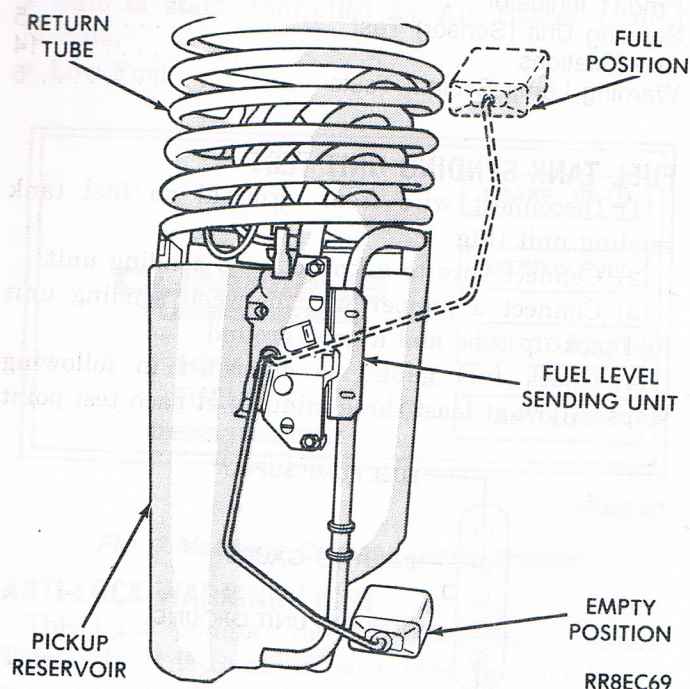

Fig. 2 Fuel Tank Sending Unit Test
(5) Clip float arm of sending unit to its empty stop (Fig. 2) and turn ignition key to ON position. The gauge should read Empty, plus one pointer width, or minus two pointer widths.
(6) Move and clip sending unit float arm to full stop. The gauge should read Full, or above.